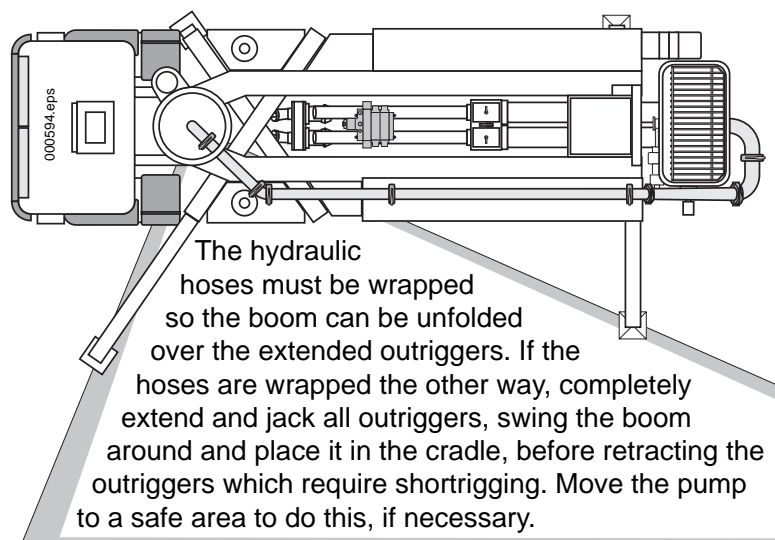

Figure 2
1. Before extending any outrigger, check which way the hydraulic hoses are wrapped in the turret. You must be able to unfold to the side with fully extended outriggers without moving the boom to the side with retracted outriggers (Figure 2).